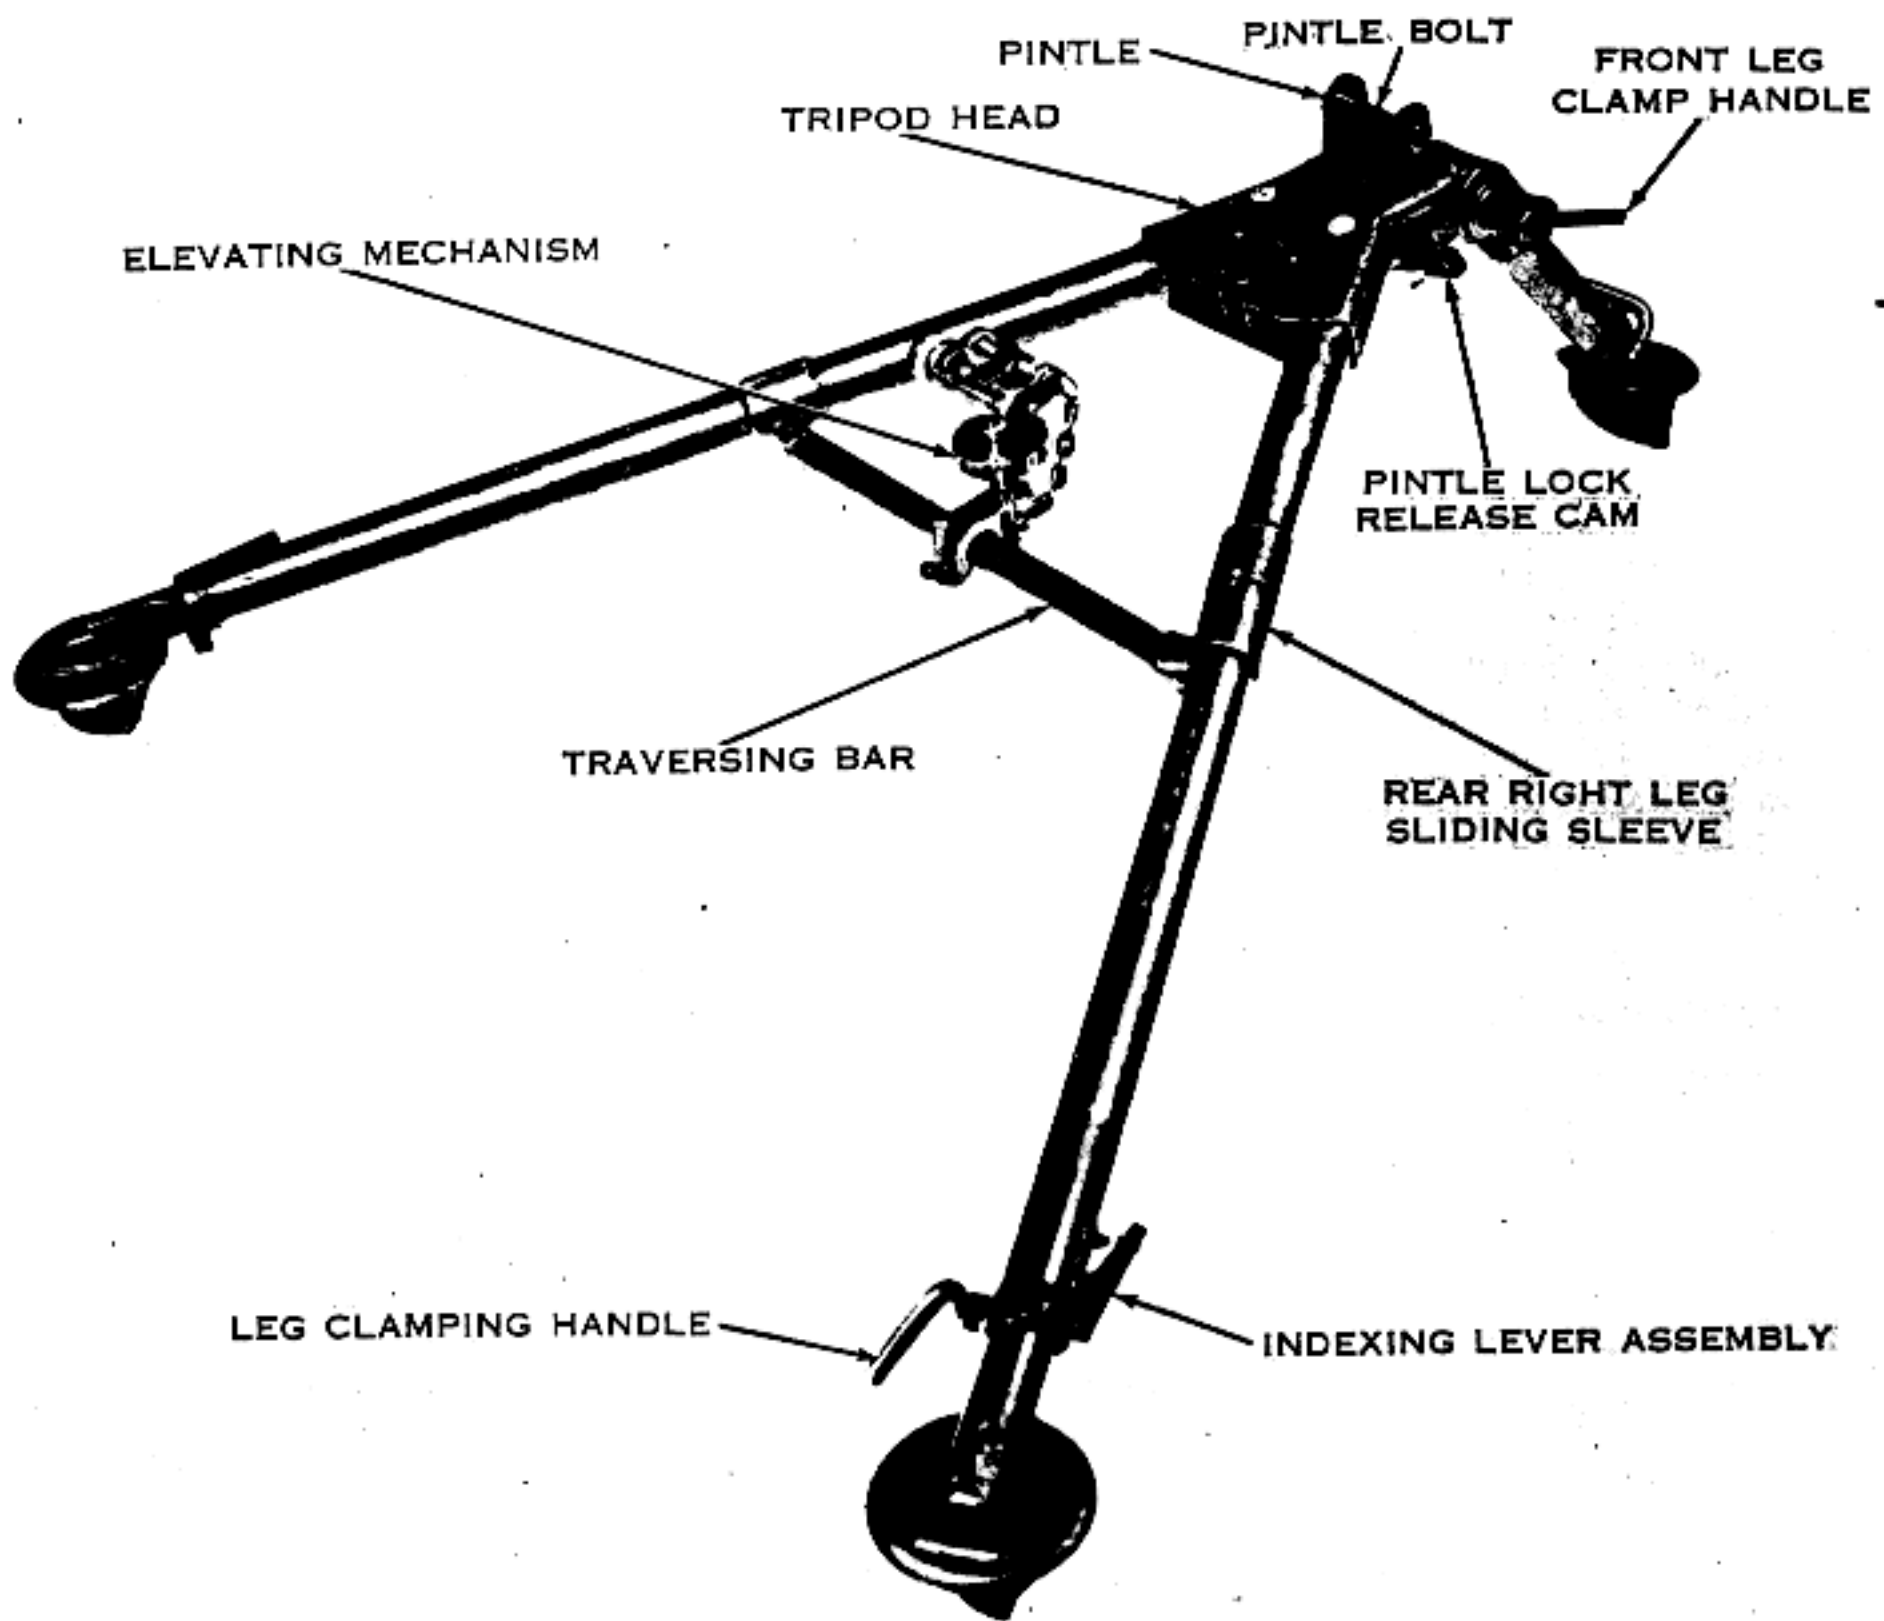

Figure 106. Tripod mount, M3.
a. *General.* The M3 mount is the standard ground mount of the caliber .50 machinegun (fig 106). It is a folding tripod with three telescopic, tubular legs, connected at the tripod head. Each leg ends in a metal shoe, which can be stamped into the ground for greater stability. The two trail legs are joined together by the traversing bar. The traversing bar serves as a support for the traversing and elevating mechanism, which in turn supports the rear of the gun. The tripod head furnishes a front support for the mounted gun which is further supported by the short front leg. When the tripod is emplaced on flat terrain, with all extensions closed, the adjustable front leg should form an angle of about 60 degrees with the ground. This places the gun on a low mount, about 12 inches above the ground. To raise the tripod farther off the ground, extend the telescopic front and trail legs (enough to keep the tripod level and maintain the stability of the mount).